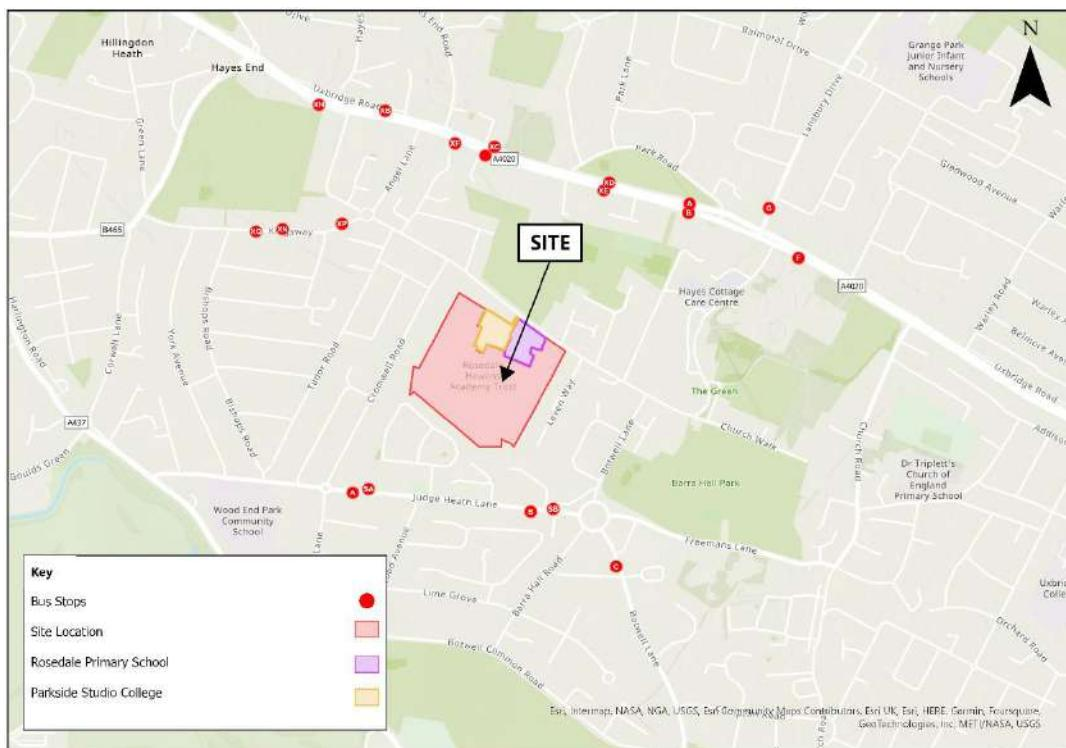

Figure 1.1: Site Location Plan
1.7 The site is bounded to the east, south and west by residential properties, with Wood End Green Road running along its northern boundary. Uxbridge Road is located approximately 550m northeast of the site's vehicle access, which provides access to bus services and a number of local shops. The site is also located adjacent to Parkside Studio College and Rosedale Primary School, which are also accessed from Wood End Green Road. A site location plan is shown at **Figure 1.1** below.